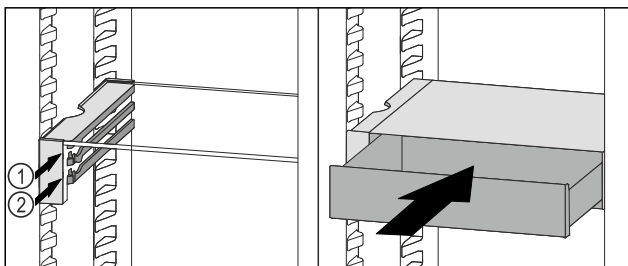

Fig. 177
- Place the VarioSafe drawer behind the stoppers on desired rib Fig. 177 (1) or Fig. 177 (2).